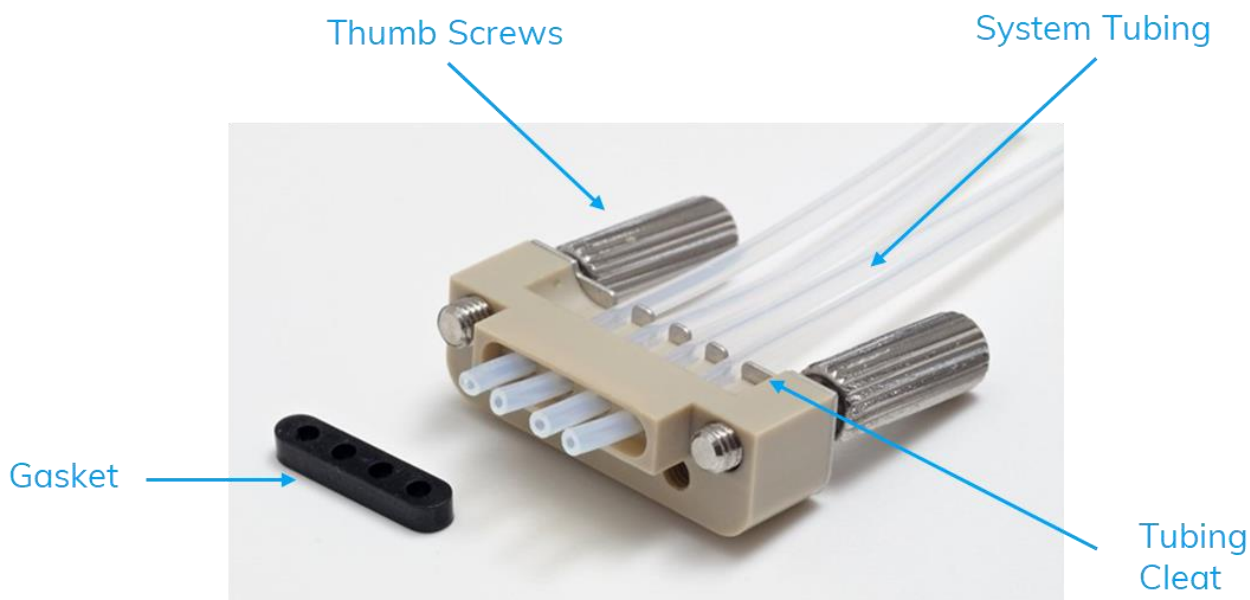

Figure 23 Components of Linear Connector
Step 1: Slide the end of the tubing into the correct Linear Connector Port (Figure 23). Insert the tubing so that this is “above” the Tubing Cleat to prevent damage to the external surface of the tubing. Tubing should extend past the end of the Linear Connector approximately 0.5 cm. Refer to the schematic provided with the Application Pack Datasheet to confirm tubing configuration.